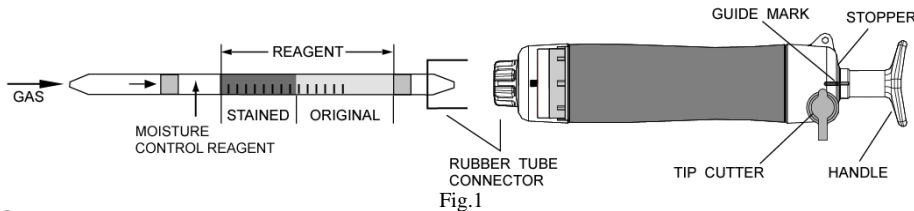

Fig.1
- ② Insert the detector tube into aspirating pump securely as shown in Fig.1. (Arrow mark shall point to the pump.)
- ③ Align the guide marks on the shaft and stopper of the aspirating pump.
- ④ Pull the pump handle at full stroke until it locks and wait for 1.5 minutes or until the completion of sampling is confirmed with the flow indicator of the pump (See descriptions about the flow indicator in the instructions of the pump).
- ⑤ On completion of sampling, read the scale at the maximum point of the stained layer.
- ⑥ In case of measuring Allyl alcohol, the concentration can be obtained from the conversion chart.